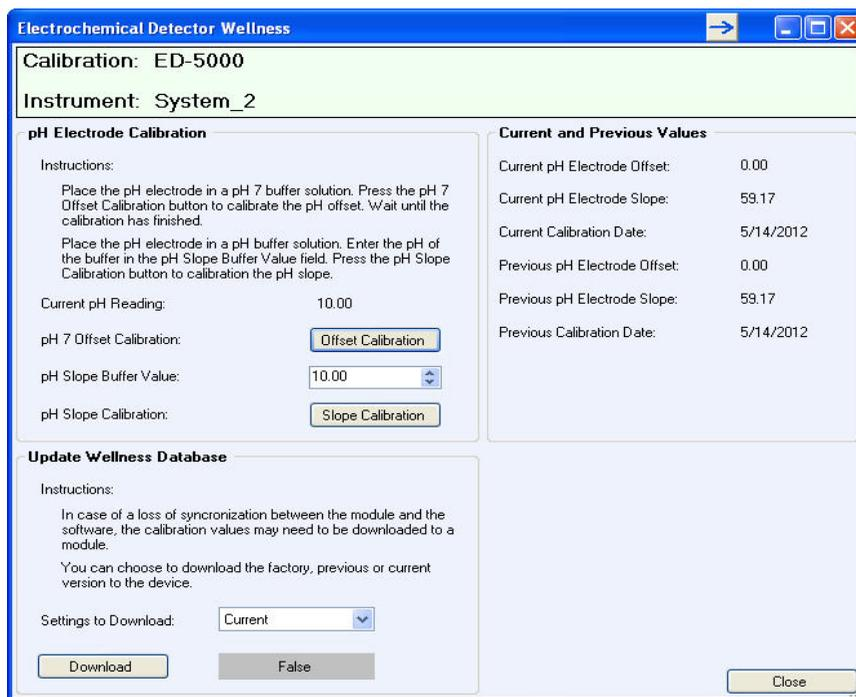

Figure B-8. Wellness Panel: Dionex ICS-5000+ Electrochemical Detector (Chromeleon 7 Version Shown)
4. Click the **Calibration** button. The Wellness panel opens (see Figure B-8).